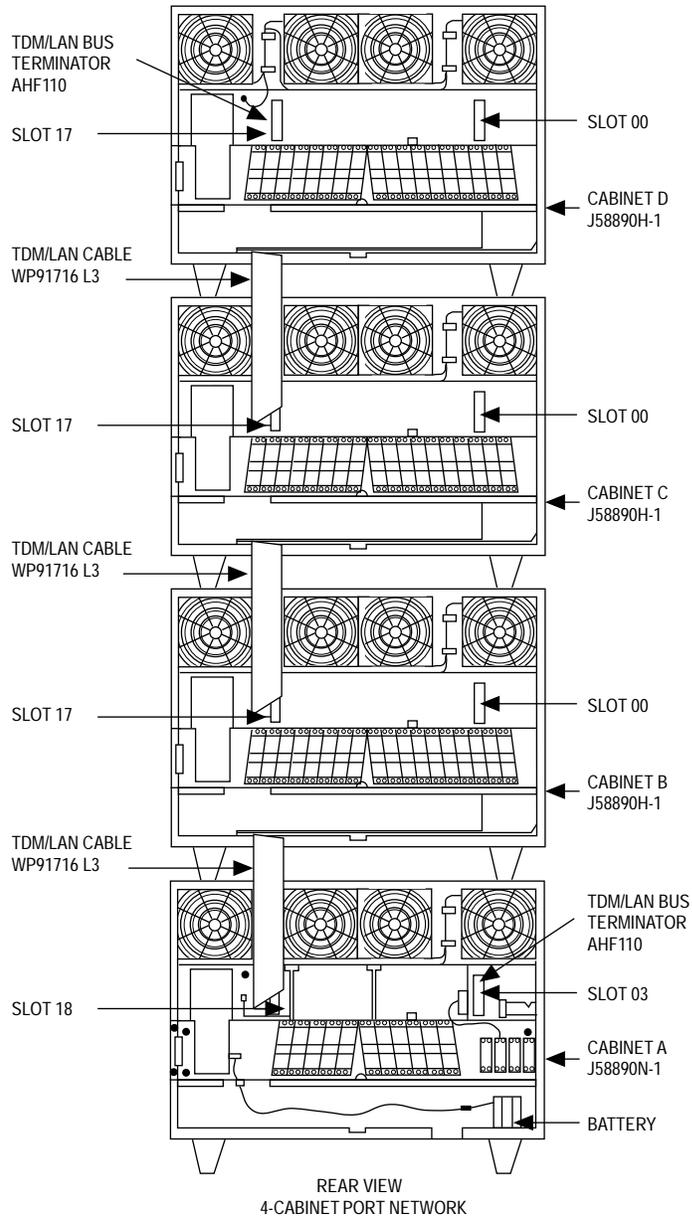

Figure 3-8. TDM/LAN Connections for DEFINITY ECS EPN
- a. Verify that the AHF110 TDM/LAN bus terminator is installed on the right side of the control cabinet looking from the back of the cabinet as shown in Figure 3-8.
- b. Verify that the AHF110 TDM/LAN bus terminator is installed on the top port cabinet (see Figure 3-8), at the end of the daisy chain of the bus.
1. Route and connect the TDM/LAN cables (see Figure 3-8). If any of the DEFINITY G3si port cabinets (being upgraded to DEFINITY ECS R5r cabinets) were originally R1V3 port cabinets, use the following steps to route a cable between an R1V3 upper cabinet and cabinet beneath it. Do not run a new cable through the existing slot in the rear shelf of the upper cabinet.